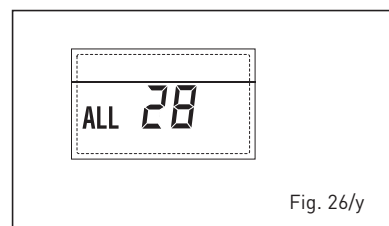

Fig. 26/y
– **ANOMALIA NUMERO SCHEDINI COLLEGATI "ALL 29" (fig. 26/z)**